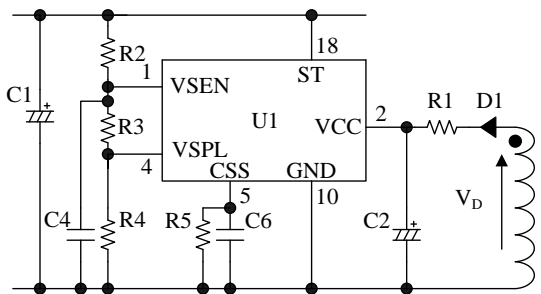

Figure 8-11 VCC pin peripheral circuit
Figure 8-11 shows the VCC pin peripheral circuit.
During the IC operation, the rectified voltage from the auxiliary winding voltage,  $V_D$ , of Figure 8-11 is a power source to the VCC pin.
- The value of C2 in Figure 8-11 is increased and/or the value of R1 is reduced.